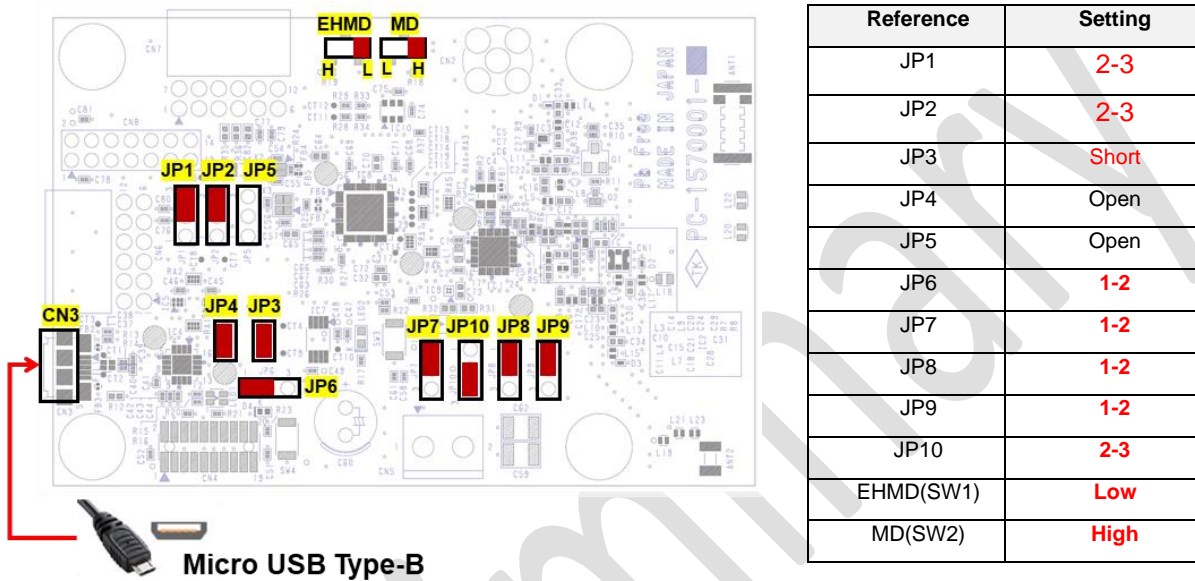

Figure 7-3 Connections for USB power supply + Serial communication
**Figure 7-3** shows the jumper pin settings and basic wiring for this mode. In this configuration, LED1 and LED2 are lit. The voltage from the USB power supply undergoes a level shift (5.0V → 3.3V) in the LDO regulator (IC7) and is supplied to the VCC line. By setting the EHMD switch (SW1) to Low, you can start the MCU in normal mode.